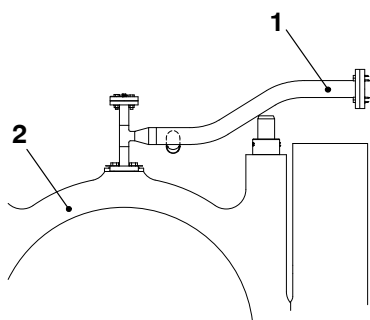

Fig. 1
- 1) Remove the oil pipe (1, Fig. 1) from the main bearing cover (2).